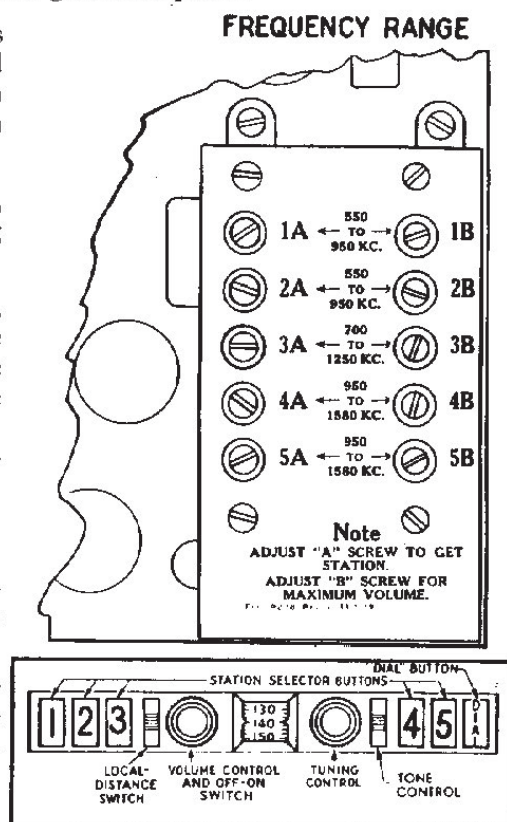

FIG. 5
(a) Select call letters of the five stations which you wish to set up on the Automatic station Selector Buttons. The station for each button must be in the frequency range shown in Fig. 5.
(b) Insert the call letter tab of the station **WHOSE FREQUENCY (KILOCYCLES) IS LOWEST**, in the group of stations which you have selected, in the extreme left push button (No. 1 in Fig. 5).
2. Arrange call letters in the order of the station frequency (kilocycles), the lowest station frequency appearing first. Be sure that the frequency of each station falls within the range of its button as specified in Fig. 5 on Page 10.
3. Insert the tab for station WMAQ in the extreme left button (Button No. 1 Fig. 5). This is done by pulling off the chromium cap covering the top of the push button. Insert the celluloid tab and the call letter tab in this cap and replace it on the button. Similarly insert the tab for station WGN in the second button from the left (Button No. 2).
3. Using the tuning knob, tune in the station whose call letters appear on the extreme left hand button (Button No. 1, Fig. 5). This is done so you can identify the station by its program.
4. Remove the front cover on the receiver case. Two slots are provided at each side of the case so that the cover can be pried off easily. **CAUTION:** If cover is pried off with a screwdriver, do not push screwdriver too far into case. After the cover has been removed, you will note two rows of adjusting screws in the receiver (see Fig. 5).
- (b) Using the tuning knob, tune in the station whose call letters appear on the second button from the left (Button No. 2, Fig. 5) and note the program being received.